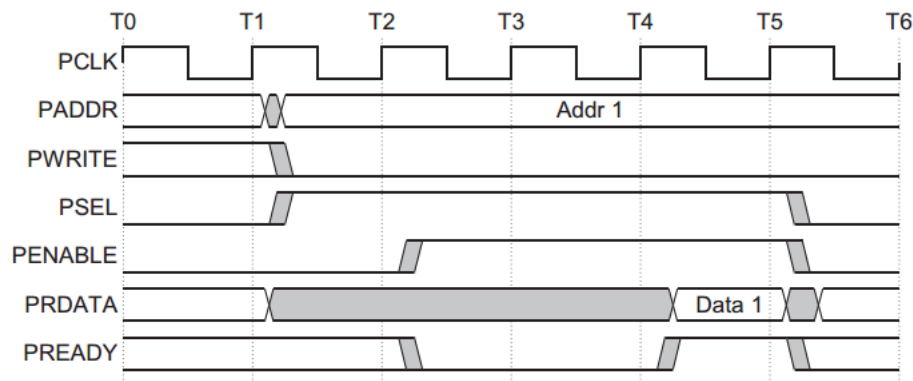

Figure 2-5 Read transfer with wait states
Figure 2-5 shows how the PREADY signal can extend the transfer. The transfer is extended if PREADY is driven LOW during an Access phase. The protocol ensures that the following remain unchanged for the additional cycles:
Figure 2-5 shows that two cycles are added using the PREADY signal.
- Read transfer with wait state timing chart – Figure 2-5